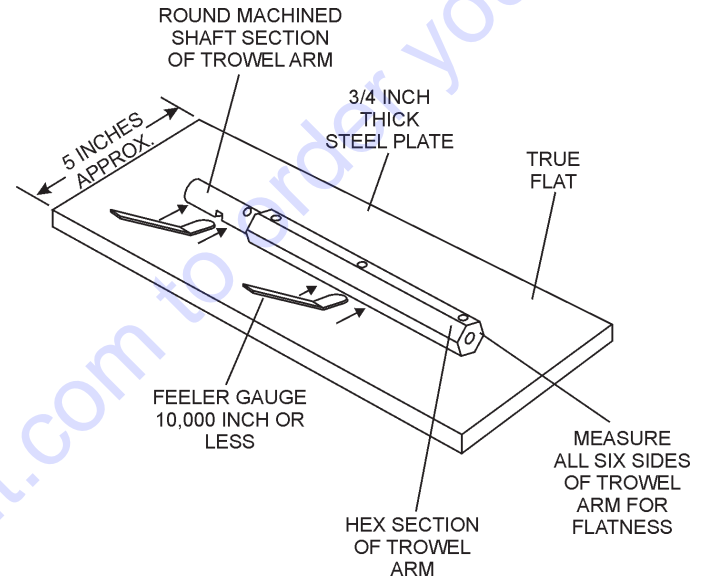

Figure 46. Trowel Arm Flatness Test
- Check each of the six sides of the trowel arm (hex section only) using a ten thousandths of an inch (max.) feeler gauge (Figure 46) between the flat of the trowel arm and an **extremely flat** test surface.